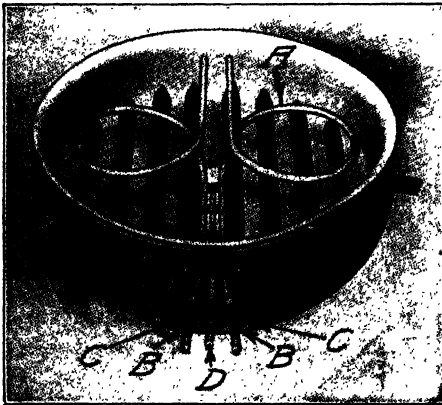

Fig. 34. Stanley Burner, Showing Vaporizer and Mixing Tubes
**Stanley.** Either gasoline, kerosene, or a mixture of the two can be burned in the Stanley main burner. The burner, Fig. 34, consists of a corrugated casting with a large number of slots cut across the peaks of each parallel corrugation. Vaporization of the fuel takes